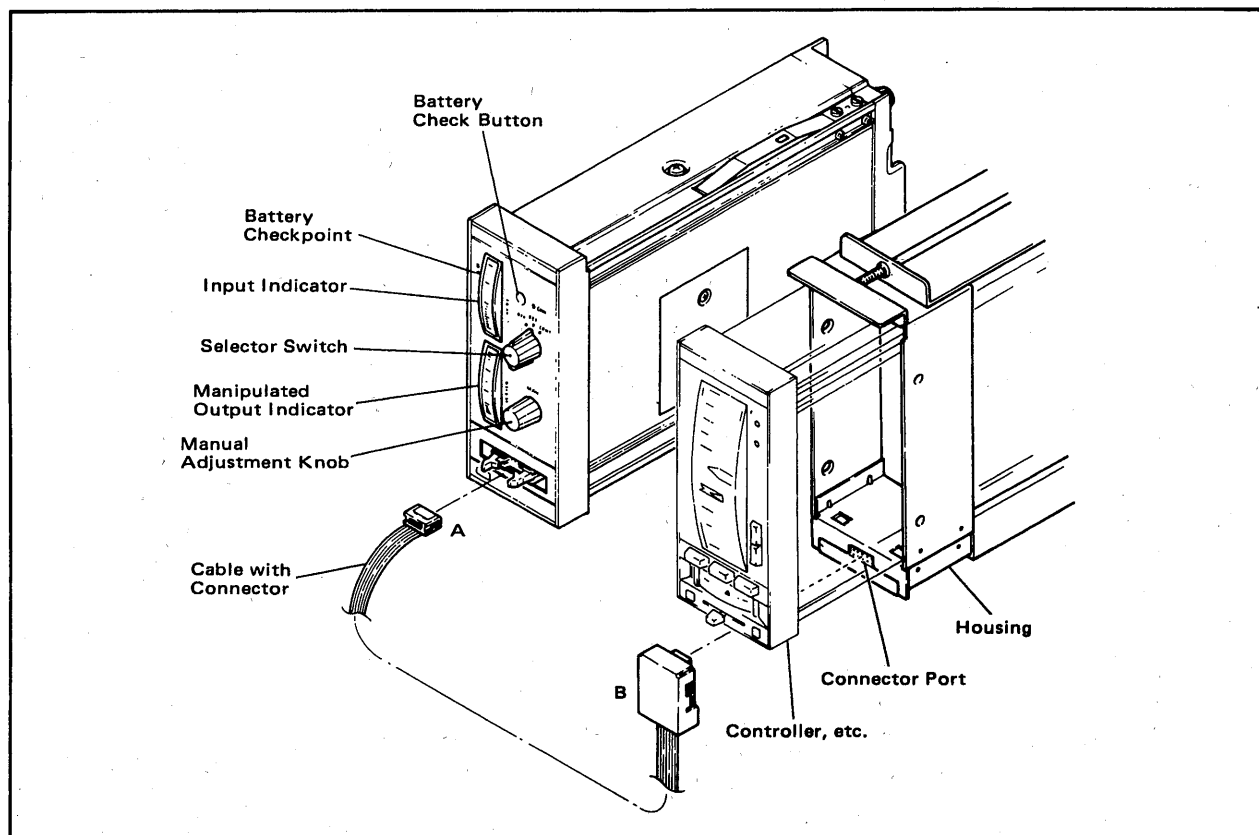

Figure 5-16. SPBD Connection.
Figure 5-16 shows examples of set point follow-up waveforms observed when parameters PX (α) and PY (β) are separately changed from 0 to 1.
- (2) Insert the cable from the SPBD manual control station into the jack at the bottom of the housing and switch the output signal from the SLCD to the SPBD. (See Figure 5-16.)
- (3) Select the CHECK switch on the tuning panel for possible causes of a failure. If the failure is attributable to a hardware fault, remove the instrument from the panel and troubleshoot it as instructed in Chapter 7.